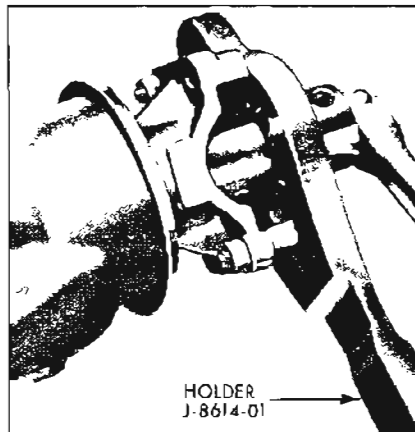

Figure 6-27—Installing Pinion Nut
5. Install pinion washer and nut. Hold companion flange with Holder J-8614-01. While intermittently rotating pinion to seat bearings, tighten pinion nut until end play begins to be taken up. See Figure 6-27.